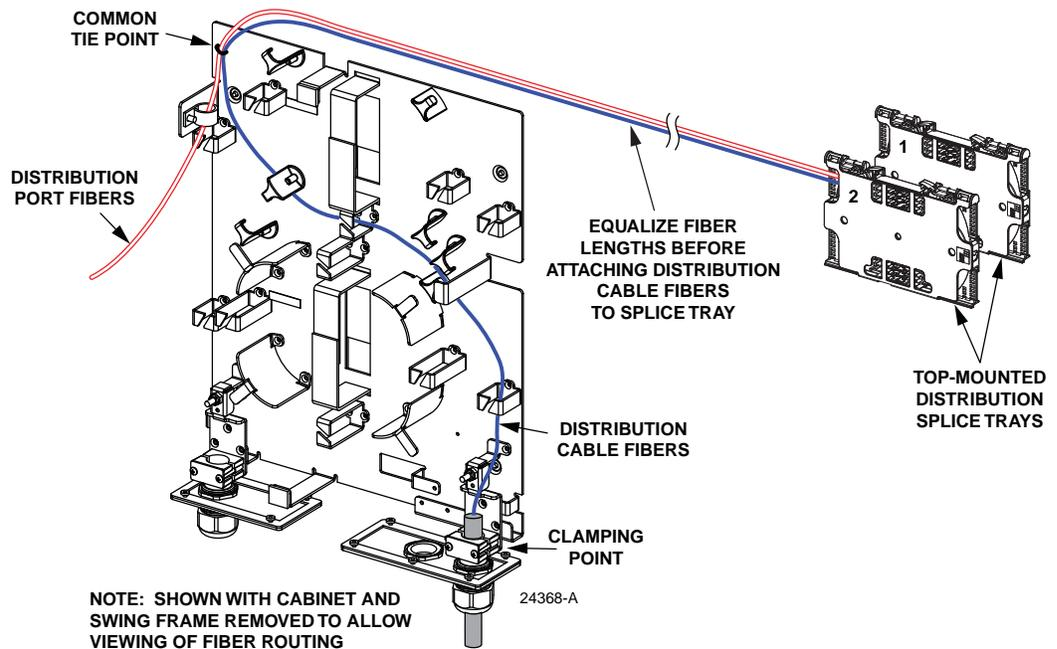
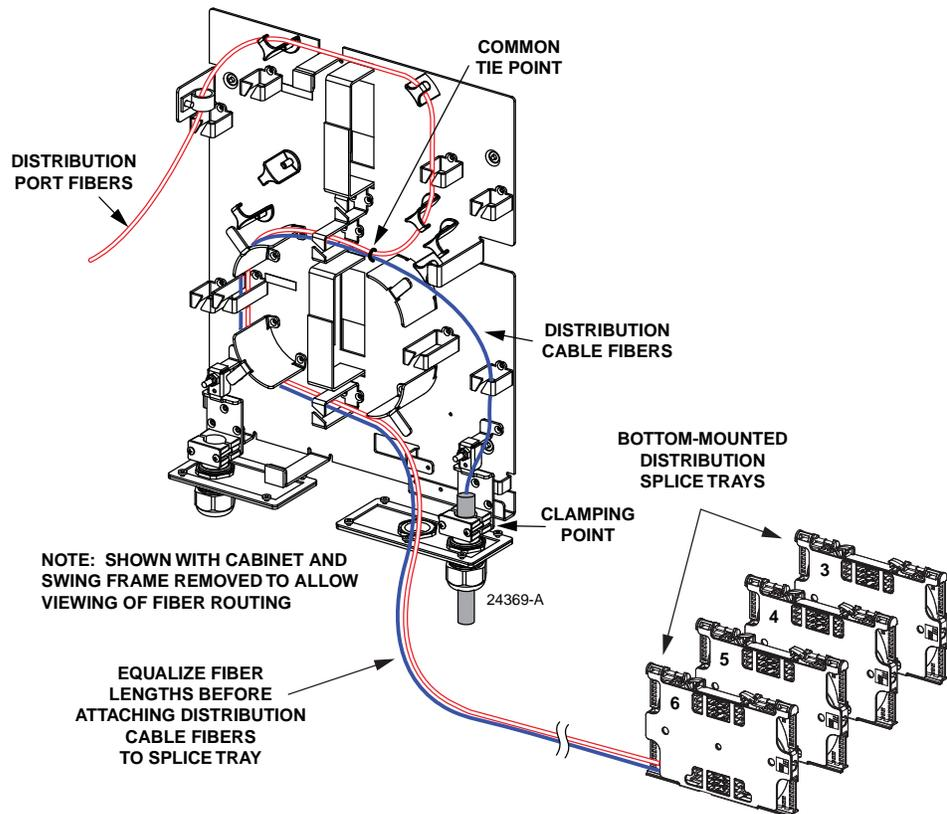

Figure 32. Distribution Cable Fiber Routing for Top-Mounted Splice Trays
Figure 33. Distribution Fiber Routing for Bottom-Mounted Splice
3. Beginning at the distribution cable clamping point, route the distribution cable subunits to the point where they intersect with the distribution port fibers. The routing for top-mounted splice trays is shown in Figure 32. The routing for bottom-mounted splice trays is shown in Figure 33.